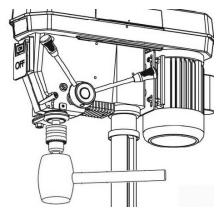

Fig. 9
- a. Tap the chuck firmly with a wood mallet to secure it in place. Hold a piece of wood against the chuck and strike that instead when using a metal mallet or hammer (Fig. 9).